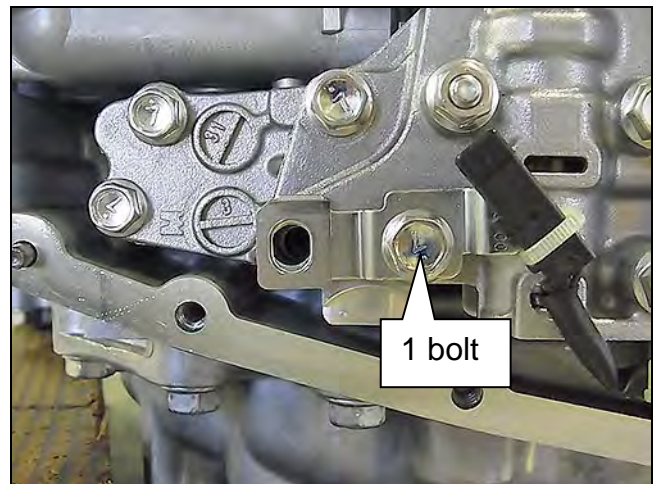

Figure 9A
5. Install the CVT fluid temperature sensor bracket to the valve body with one (1) bolt (Figure 9A).
**NOTE:** Leave one (1) bolt hole blank as it will be used to secure the oil strainer at a later step.